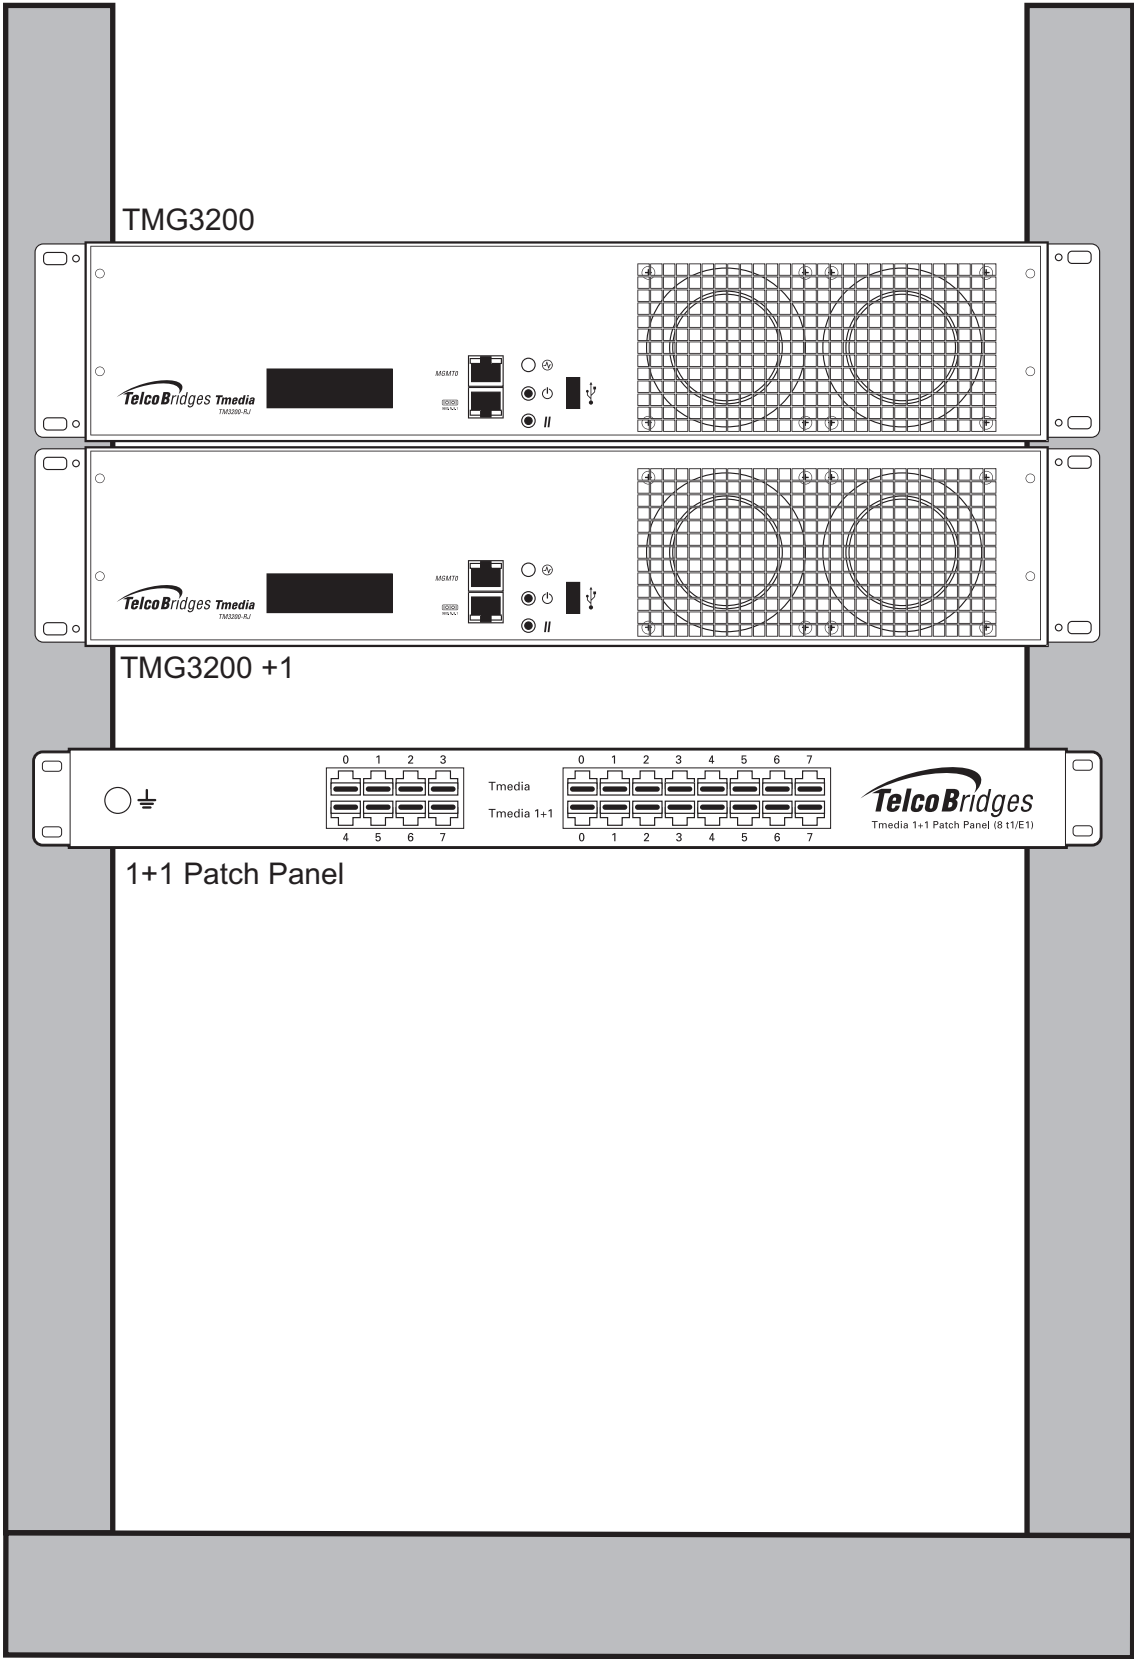

Figure 2.1 Rack Mounting a Tmedia 1+1 System
1. Using four metal screws, attach one angle bracket to the front, left-hand side of the TMG3200, when viewed from the front, as shown in figure 2.1 on page 13. Do the same for the angle bracket on the right-hand side.
1. Install the TMG3200 +1 below the TMG3200, as shown in figure 2.1 on page 13.
1. Install the 1+1 patch panel below the TMG3200 +1, as shown in figure 2.1 on page 13.